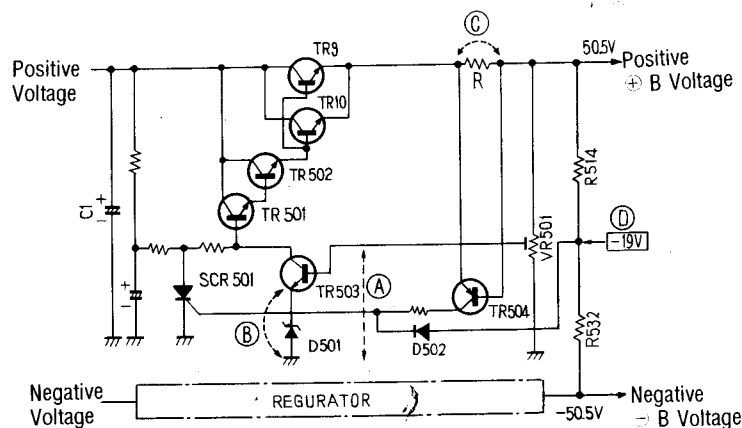

Fig.1.
Although figure 1 shows only the circuit diagram of the positive power source, the operation principles of the negative power source are exactly the same as those of the positive power source, and their explanation is omitted here.
- When the output voltage (50.5V) becomes high as a result of a voltage variation from the power source, the voltage at point (A) in figure 1 becomes high.
- If excessive current flows to the main amplifier, the voltage drop (R in figure 1) is increased, and TR504 is activated by that voltage (C). When TR504 functions, voltage is generated in the collector, and SCR501 is activated by the bias applied to it. As a result, the base potential of TR501 is decreased to the "cut-off" condition, and, therefore, TR10 does not function and output is not emitted.
- D502, shown in figure 1, is to prevent damage to the main amplifier in the event of an interruption of the negative power.